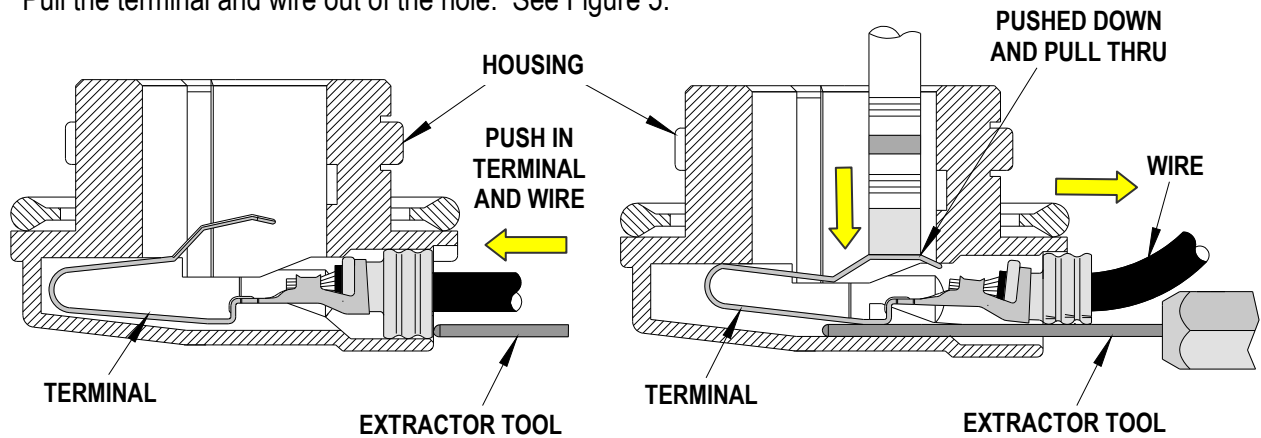

Figure 5
5. Pull the terminal and wire out of the hole. See Figure 5.